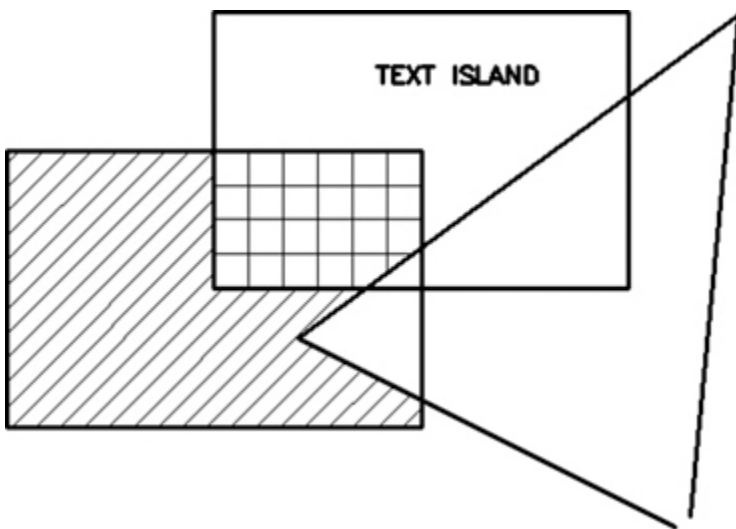

Figure 10-12
- 8** Press **<Enter>** to accept the hatch. Your drawing should look like Figure 10-12.